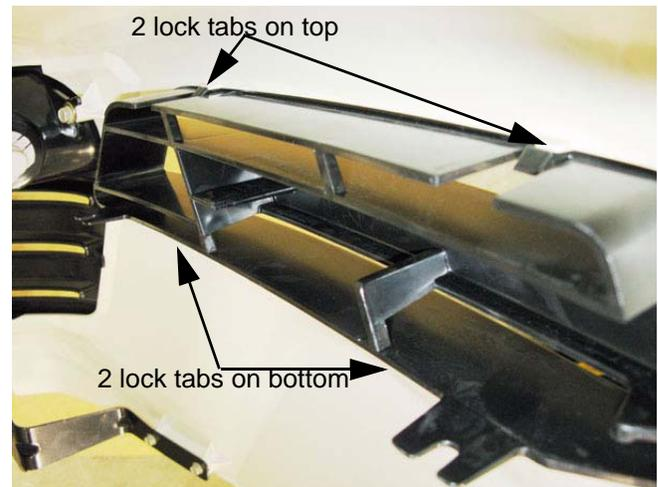

Figure 4.7
1. Carefully pry the vent free of the lock tabs. See Figure 4.7.